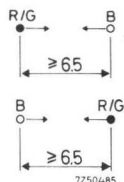

Fig. 3
*) red/green and blue move in opposite direction (see Fig. 3)